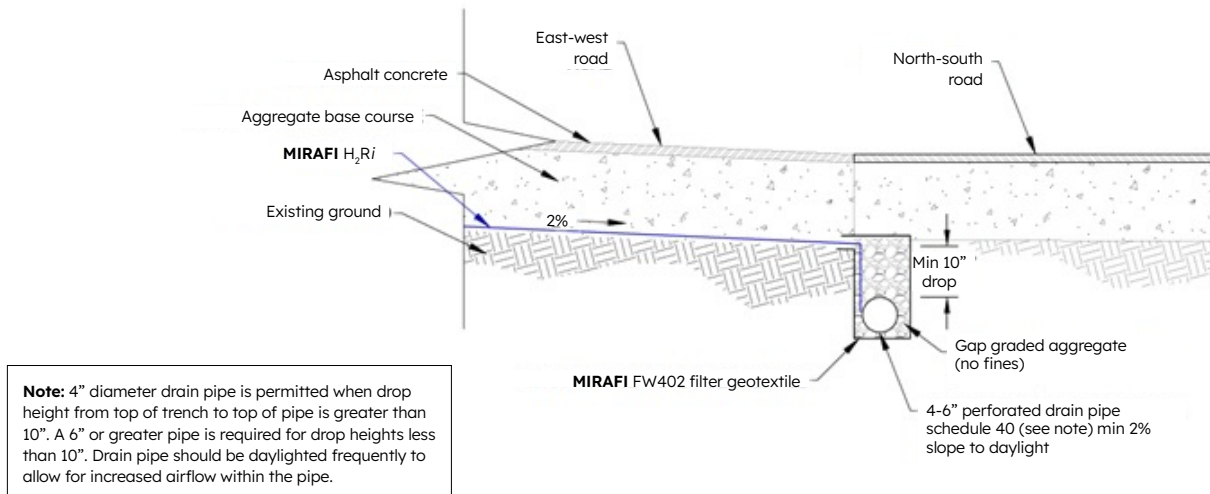

Figure 11: Geotextile into edge drain detail
- 4. Intersection trench drain** – Best for terminations that occur at an intersection. In this approach the **MIRAFI H₂Ri** is terminated into a traditional trench drain below the structural section with a perforated pipe at the edge of the intersection. A minimum 4 in (100 mm) diameter HDPE perforated drain pipe is recommended for use in these applications. A vertical drop of 10 in (250 mm) between the elevation of the geotextile and the top of pipe is recommended to initiate a siphon effect in the drainage channels, as shown in Figure 11.